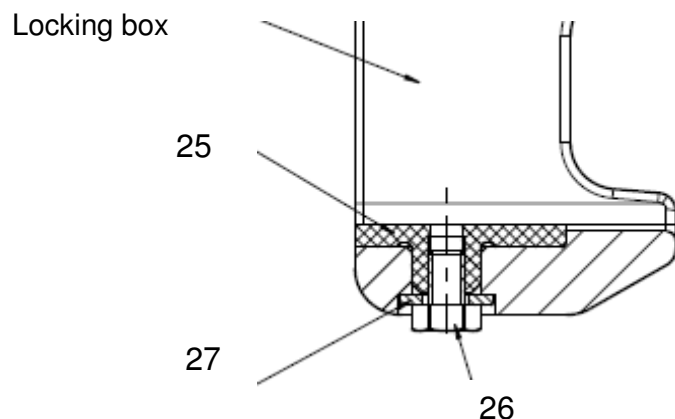

Fig. 11 Replacement of sliding insert in case of wear and tear
In case of wear and tear of the sliding insert (25) within the locking box, this can be easily removed by bolting (26, 27 Fig. 11).